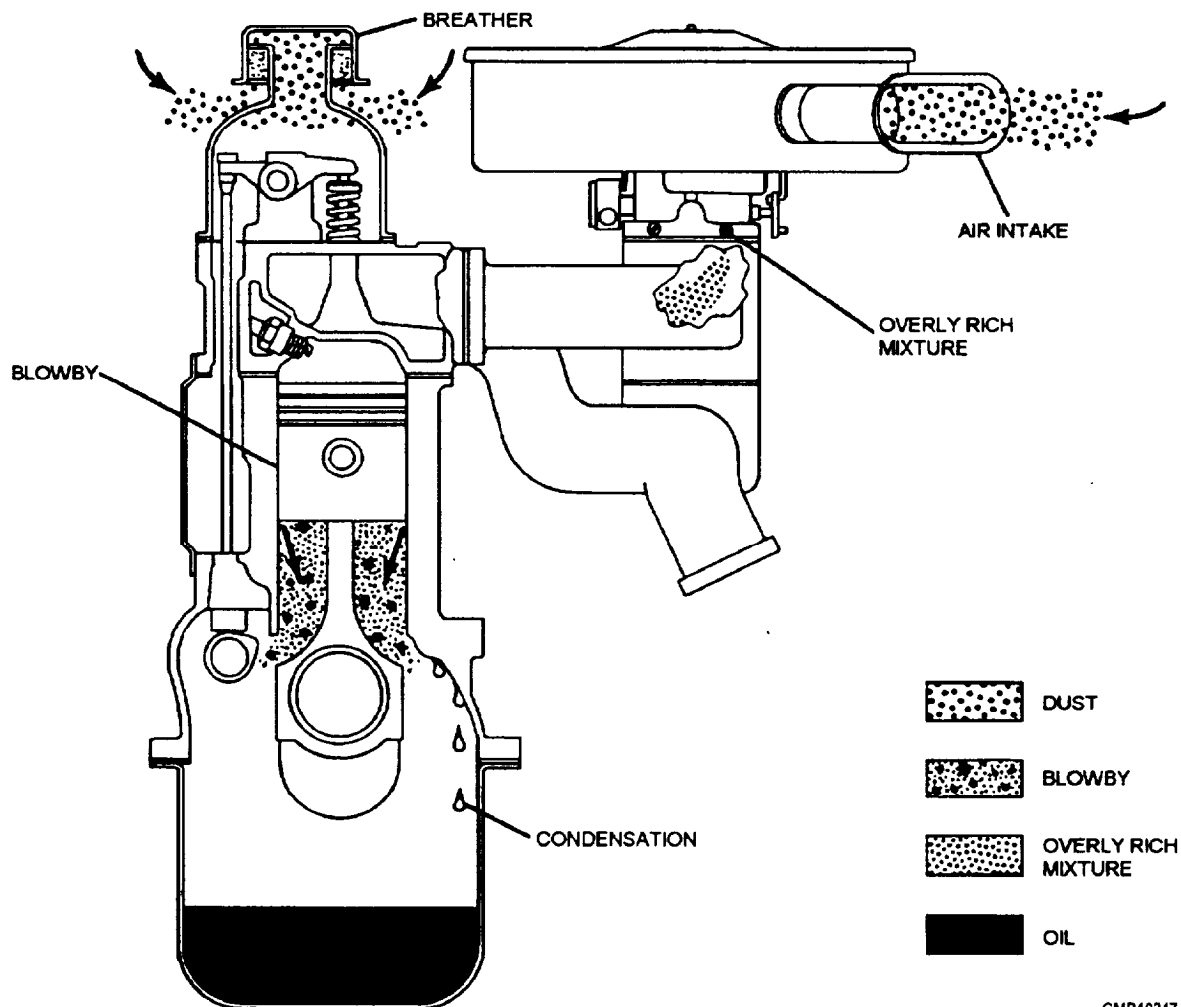

Figure 6-19.—Sources of oil contamination.
- Cleans the inside of the engine by removing contaminants (metal, dirt, plastic, rubber, and other particles) (fig. 6-19).